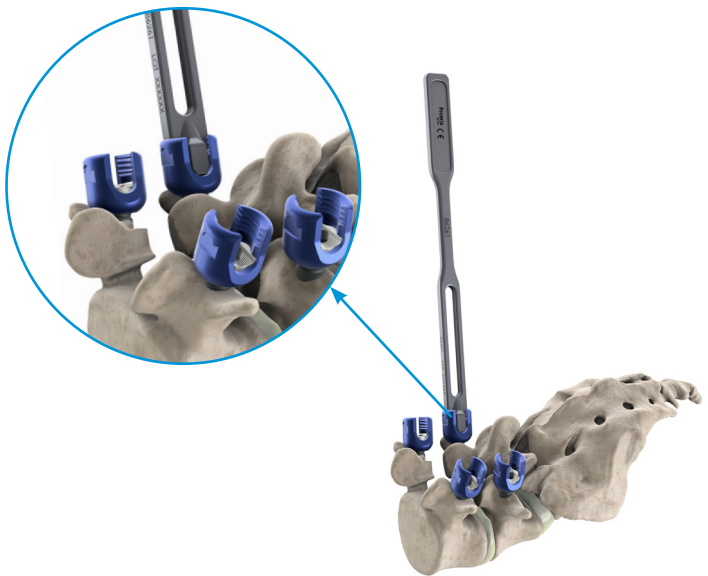

Figure 36: Head Releaser to unlock the polyaxiality of the pedicle screw joints
- iii. Prior to inserting the TOPS Motion Implant, use the Head Releaser to unlock the polyaxiality of the pedicle screw joints if they are locked (Figure 36).